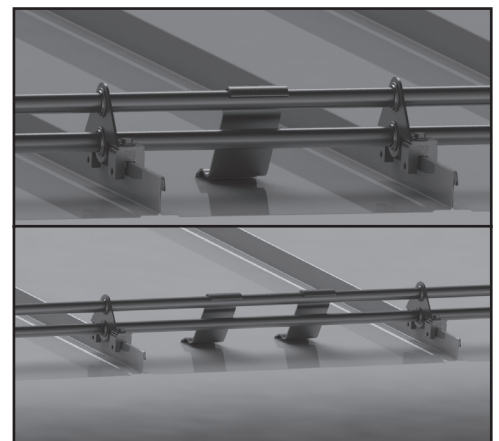

Fig 2: One or two DualClips spaced evenly between brackets and clamps
2. Center DualClip on the 1" pipe cross-member between two roof seams or VersaGard brackets when using one DualClip per panel. When using two DualClips per panel, space DualClips an equal distance from the seam or brackets and the other DualClip (Fig 2). **Important:** DualClip should be placed between panel striations not on top.